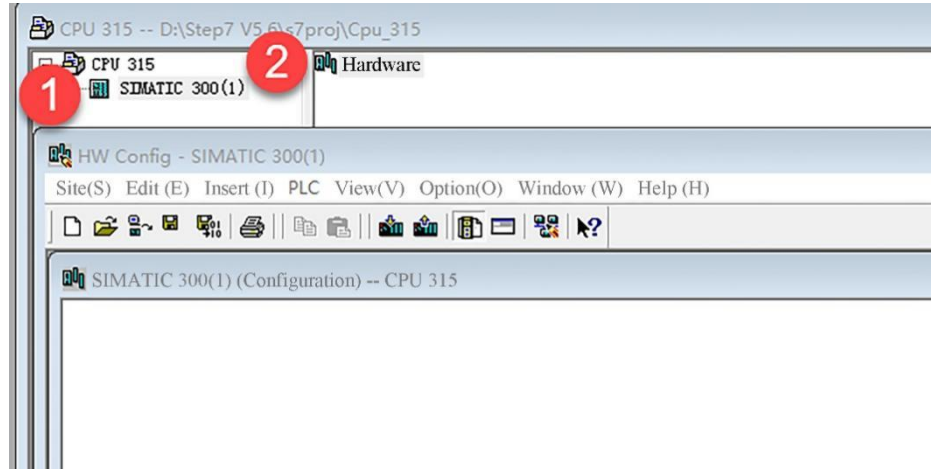
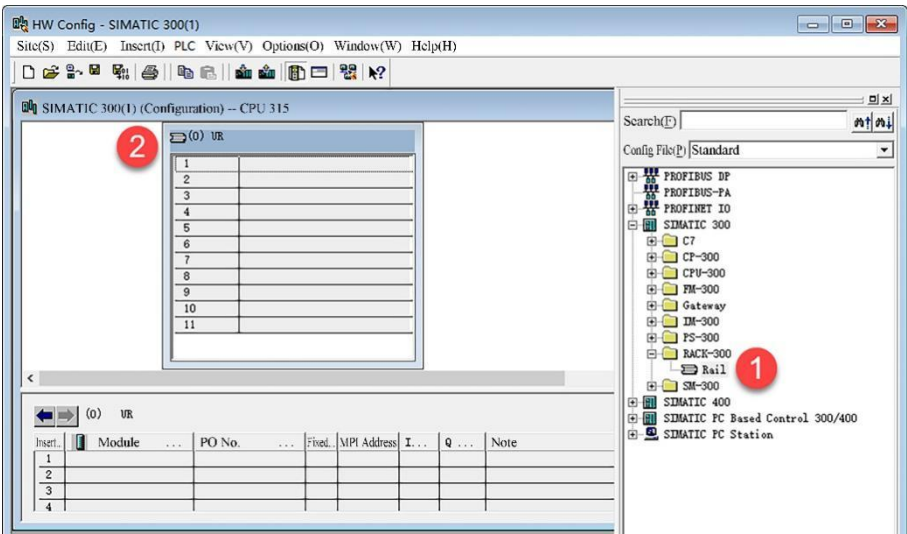
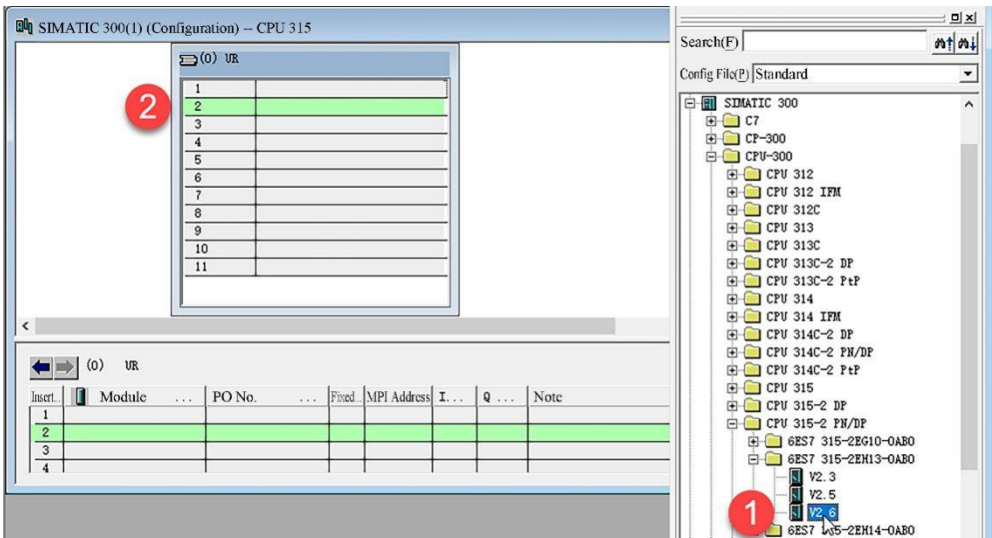
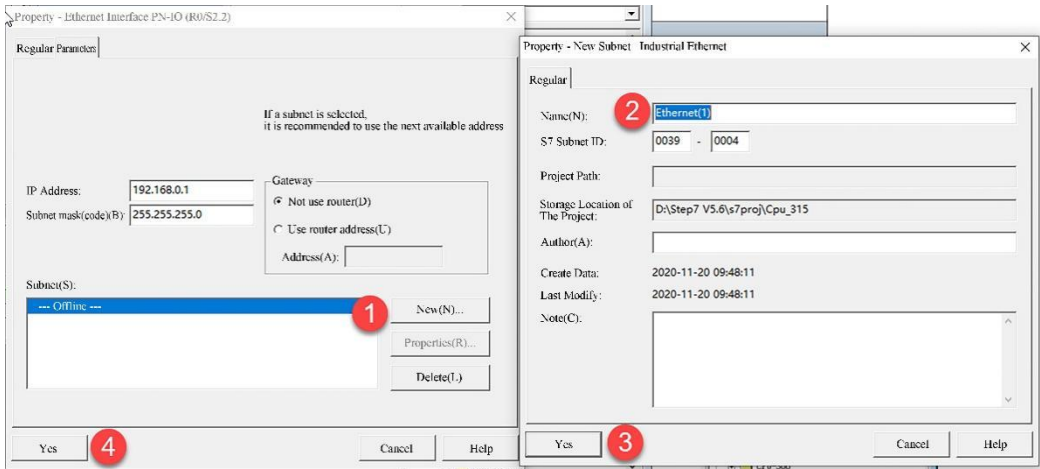

Figure 5-9-24 The HW Config page is displayed
Figure 5-9-25 Adding rack Reil
Figure 5-9-26 Adding a CPU module to the rack
Figure 5-9-27 Adding an Ethernet subnet
Add 300 sites in the project, as shown in Figure 5-8-23. Click the newly added 300 site and select "Hardware" to enter the HW Config configuration interface, as shown in Figure 5-9-24. Add RACK Reil for RACK 300, as shown in Figure 5-9-25. To add a CPU module, click HW Config, select CPU315-2 PN/DP VERSION V2.6 of CPU-300 in the right pane, and drag the CPU module to slot 2 of the rack, as shown in Figure 5-9-26. In the Ethernet interface properties interface, you can use other IP addresses as required, here use the default IP address and subnet mask, and select the New button, create a new subnet Ethernet (1) click OK, as shown in Figure 5-9-27.